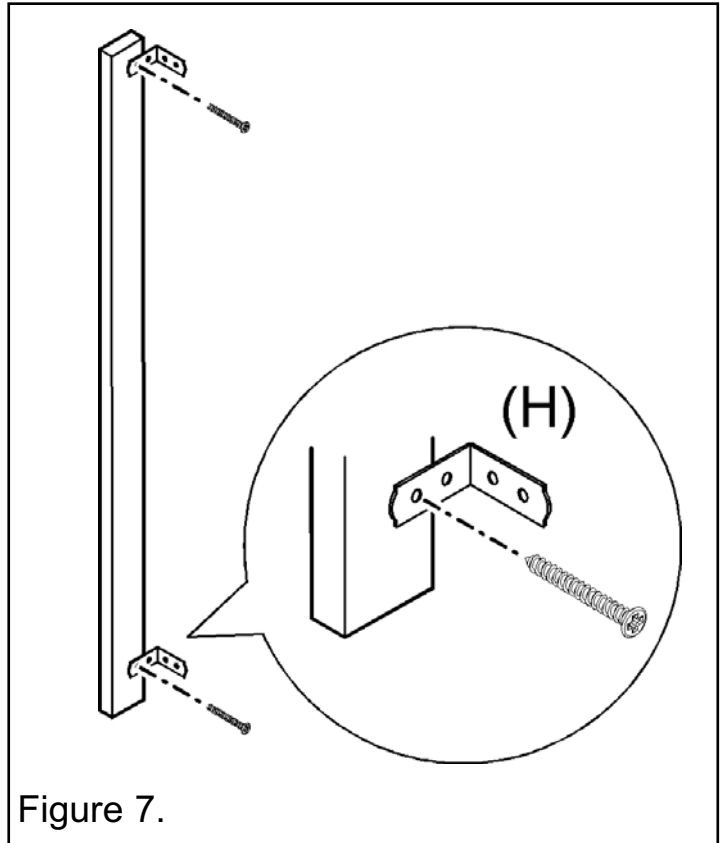

Figure 7.
- The surround is supplied with six brackets (H), four of which are for securing the two longer infill strips to the wall behind the back panel. This should aid with the installation of electric heaters. Secure the brackets to the strips as in figure 7 using the screws used previously to secure the strips to the surround. These screws are longer than required and will pass through the gas rails.
- Measure the thickness of the back panel. 75mm minus this figure gives the required distance from the top face of the strips to the wall (See figure 7).